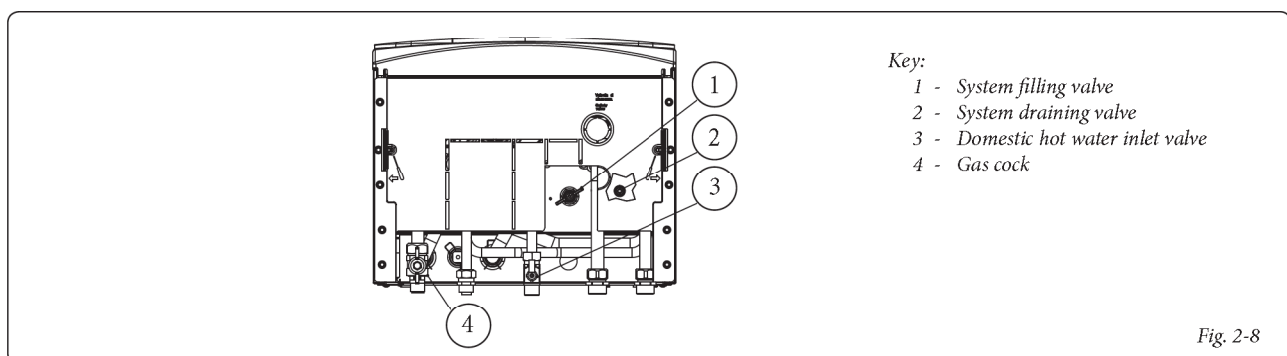

Fig. 2-8
*If the pressure falls below 1 bar (with the circuit cool) restore normal pressure via the valve located at the bottom of the boiler (Fig. 2-8).*
To drain the boiler, use the special draining valve (Fig. 2-8).